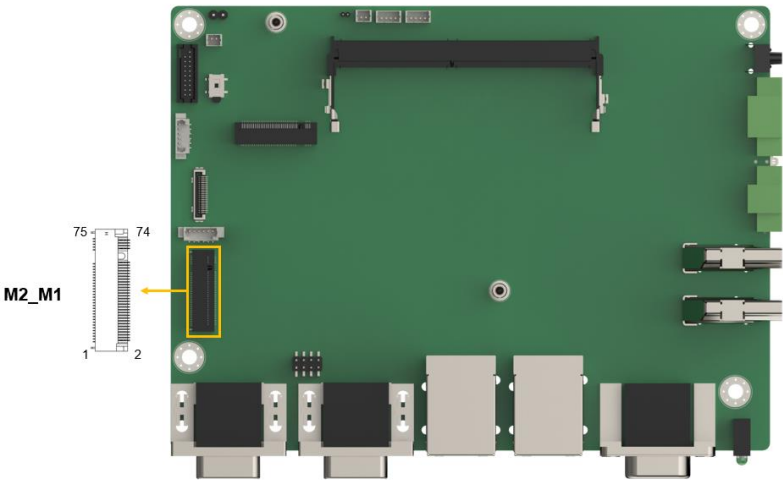

Figure 4-18: M.2 M-key Slot Location
- CN Location: See Figure 4-18